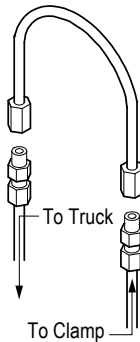

Figure 4-1, Jumper line setup
2. Purge the system by installing a jumper line and operating each hydraulic function (clamp, rotate and side shift, if equipped) in each direction for a minimum of 30 seconds. (Figure 4-1)